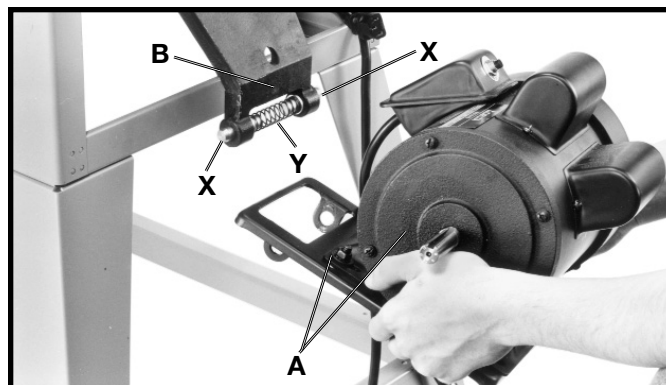

Fig. 17
2. Insert a pin (X) Fig. 17, into the holes in each side of bracket (B). **NOTE: INSERT THE TAPERED END OF PIN (X) FIG. 17, THROUGH THE INSIDE HOLE OF BRACKET (B).**
3. Assemble spring (Y) Fig. 17, onto the non tapered end of each pin (X) as shown.
4. Position motor and motor mounting plate (A) Fig. 17, below bracket (B) to allow bracket arm to slide through large opening in motor mounting plate (A).
5. Depress pins (X) Fig. 18, on both sides of bracket (B) and rotate motor mounting plate (A) until pins (X) are engaged in holes (D) Fig. 17, of motor mounting plate (A).